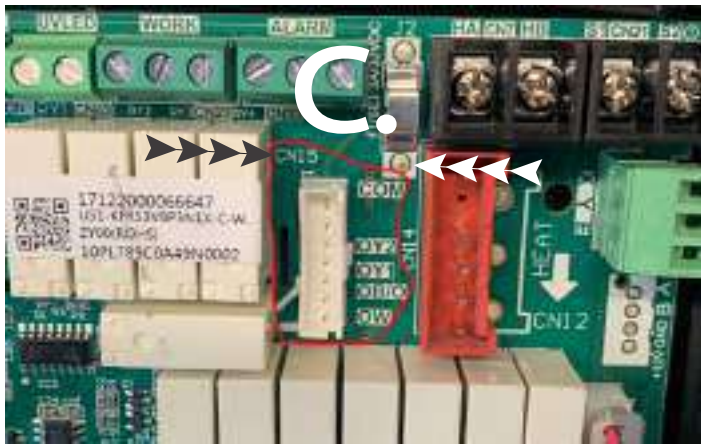

Fig. 34 —CN15 Harness Connection - AHU 24V Board
NOTE: For scenario 3, connect the outdoor unit 24 volt terminals (A) to the 24 volt harness (included, See Fig. 35) and plug in the CN15 harness connector (B) on AHU 24 volt board (C) (See Fig. 34). This will allow for the dissipation logic to shut off the ODU when a refrigerant leak is sensed if 24 volt communication is used. 24V must never be connected to S1 – S2. All wiring must be in compliance with the above scenarios. Incorrect wiring can damage the outdoor and indoor control boards.